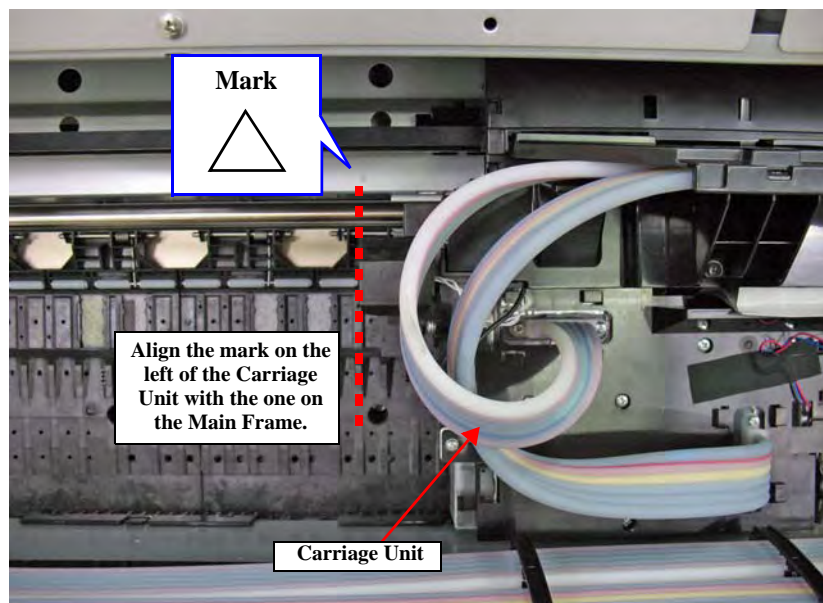

Figure 5-14. Belt Tension Measuring Position
- Epson Stylus Pro 9900/9910: Position as shown in the Figure 5-14 below.